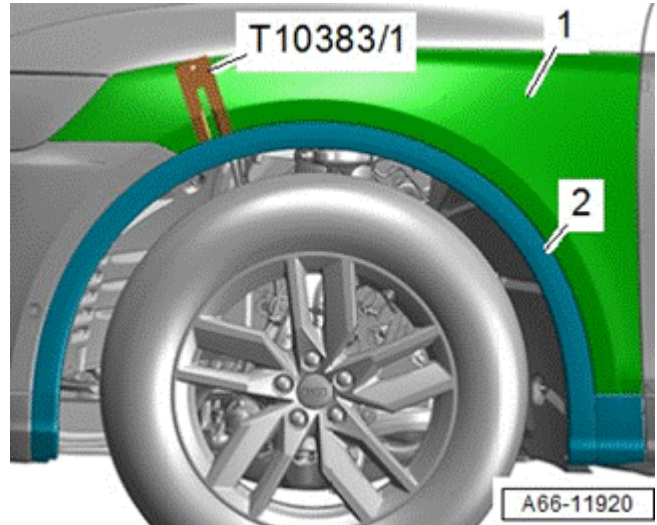

Figure 4. Front wheel arch trim removal.
1. Using the T10383 wedge set remove the front wheel arch trim (Figure 4).